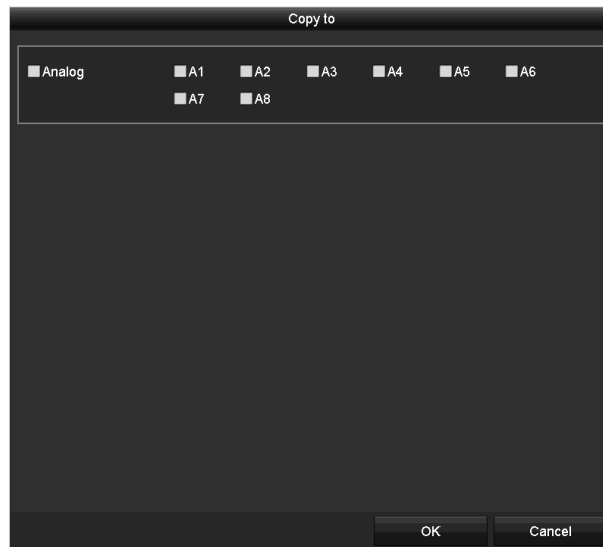

Figure 15-2 Copy Settings to Other Cameras
- 1) If you want to copy the OSD settings of the current camera to other cameras, click the **Copy** button to enter the **Copy Camera** interface, as shown in Figure 15-2.